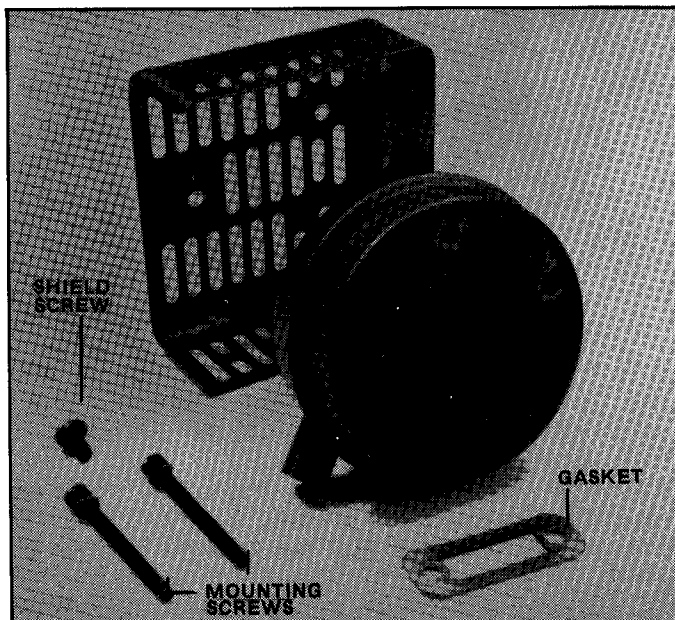

FIGURE 5.1
5.1 The muffler and shield can be removed from the engine at any time without respect to any other engine components. Remove the two screws at the top of the muffler and shield. Remove the muffler and shield from the engine. Inspect the inlet and outlet of the muffler and the exhaust port of the engine for excessive carbon buildup. It is preferred that carbon build up be removed by using a piece of wood as a scrape. However, if necessary a metal object can be used but care should be taken not to scar the piston. See Figure 5.1.